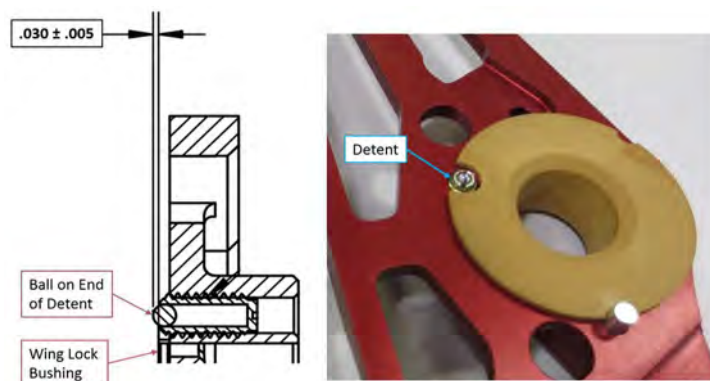

FIGURE 18-10
- a. Apply LOCTITE® 222™ to the threads of a new 3408A112 spring detent then, using a slot-head screwdriver, thread it into the handle to a depth of .030-.005 inches (Figure 18-10).
- c. Insert the ICA011209(RH)/ICA022210(LH) wing lock mounting boss into the ICA008149 wing lock bushing.